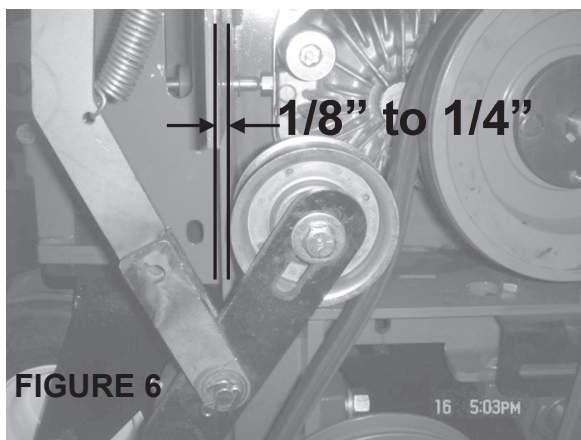

FIGURE 6
2. Move blade engagement lever until idler is about 1/8" to 1/4" away from the back plate **Figure 6**